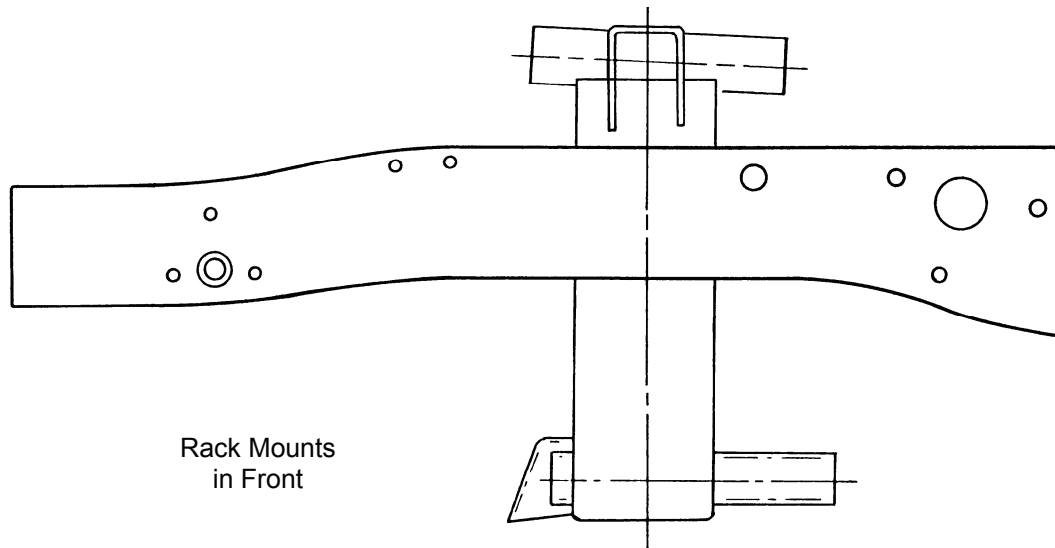

Figure 2
4. Trial fit the new crossmember into the rails. It should be located with its centerline on the marked spindle centerline. Remember to position the truck at approximately the ride angle or rake that the truck will sit at when finished. See Figure 2. During boxing, the rails may have a tendency to bow outward slightly, if they were not clamped across the frame during welding. If there is a small gap, center the crossmember and fill with weld. If there is a large gap, the rails may be undersize from grinding too much material off the edges of the rails while fitting the boxing plates. If this is the case, a spacer or filler plate may be required. If the crossmember is too wide and does not fit in, grind it to fit snug. It should be seated flat on the top of the frame rails. A double check of the fit is that the center tube of the crossmember is level both side to side and front to back. (Do not level the upper control arm mounts, as 3° of anti-dive is built into the upper arm mounts). **If you have your truck set at more than a slight rake and the crossmember is tilted, then level the crossmember at this time before welding.** Clamp in place, double check your measurements, making sure crossmember is squared on the frame and spindle centerline, then tack weld in place. Tack weld the top and bottom of the crossmember at this point. Proceed to steps 5 & 6, trial assembling all the remaining components and checking the alignment. If all goes well, then remove the parts and finish weld the crossmember in place. Be sure to fully weld the crossmember and upper shock mounts to the frame rails, as the front end weight of the truck is sup-